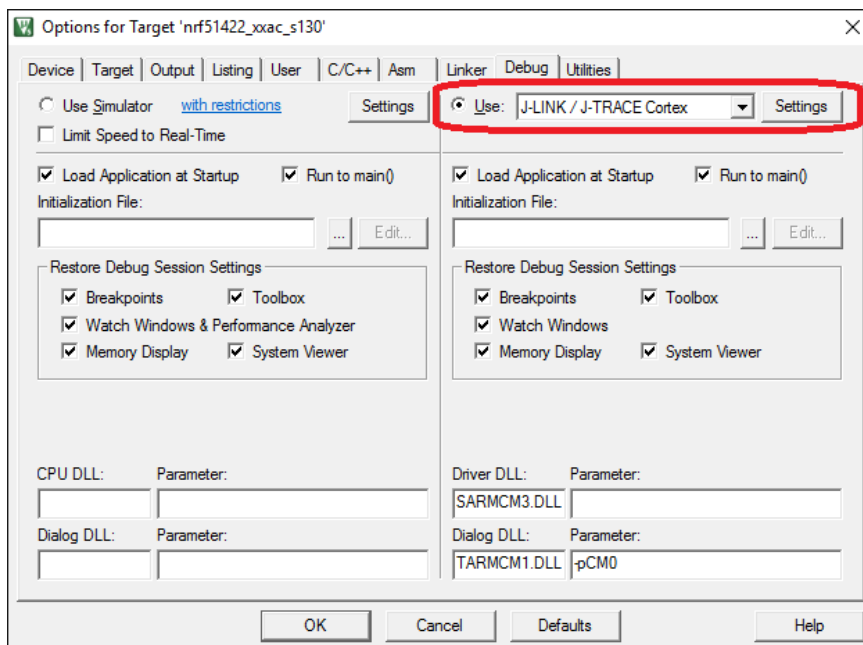

Figure 6 – Keil Flash Tools Debug Window
- Go to the 'C/C++' tab, and in the field marked 'Define' change "BOARD_PCA10028" to "BOARD_CUSTOM" as shown in Figure 6.